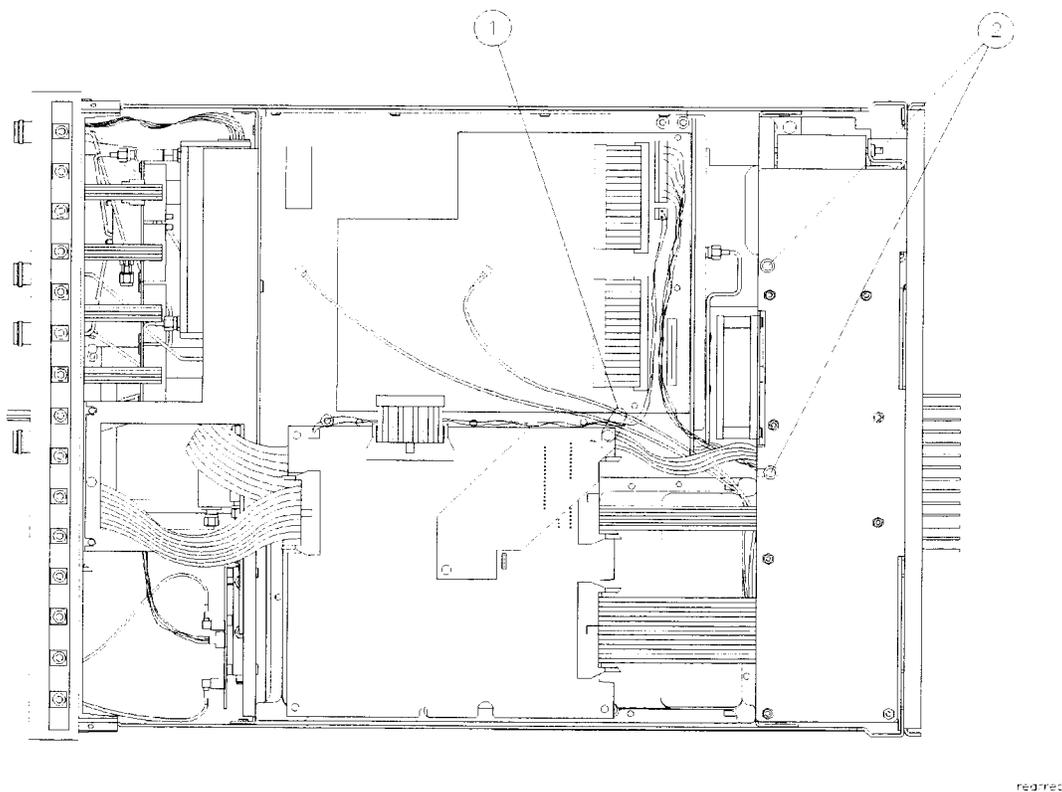
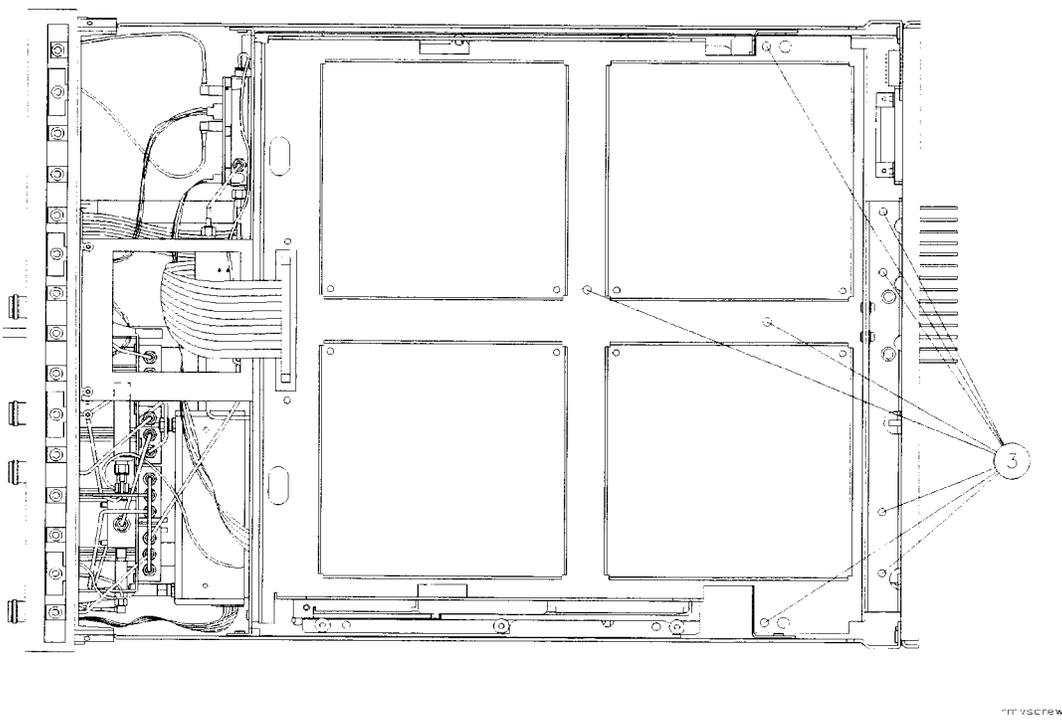
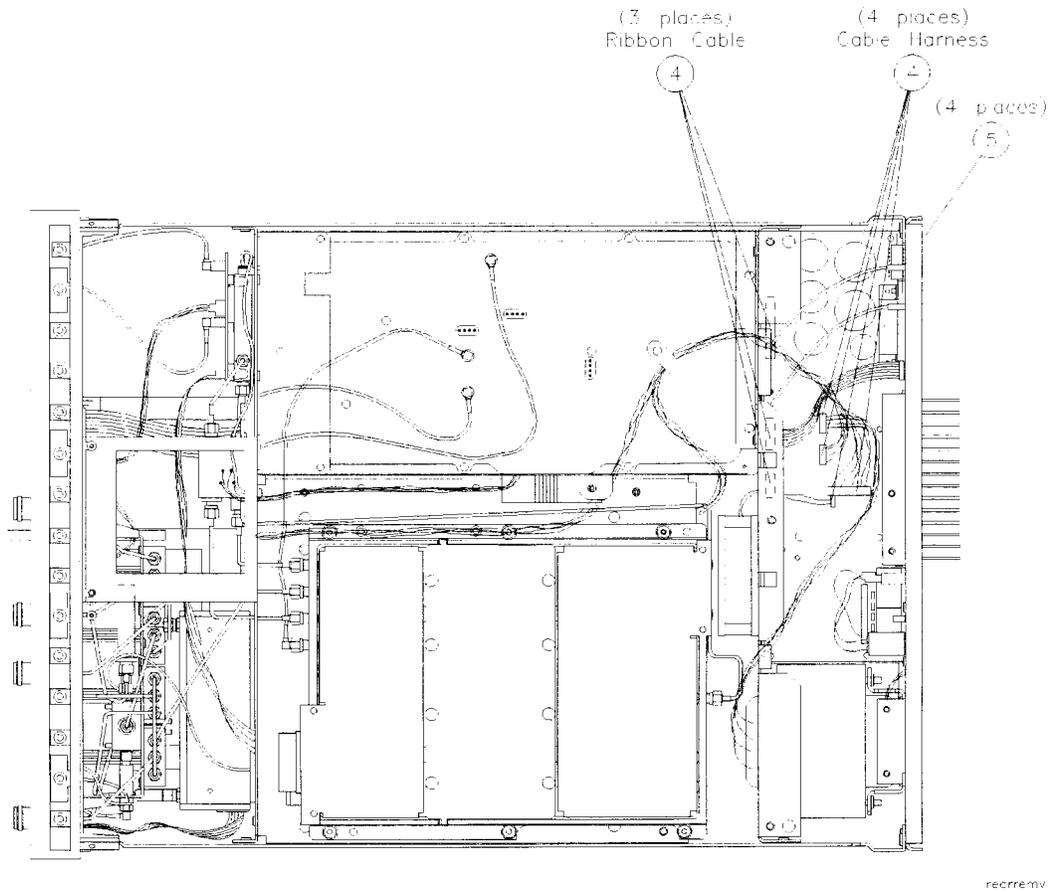

Figure 4-12 *Rear-Panel Assembly Replacement*
Figure 4-13 *Rear-Panel Assembly Replacement, Removing Lid Screws*
Figure 4-14 Rear-Panel Assembly Replacement, Rear Panel Removal
1. Cut the tie wrap that secures the two cables to the extended hex nut on the A11 processor board (1). Refer to Figure 4-12 on page 4-26.
2. Remove the two screws from the bottom plate of the rear panel (2).
4. Remove the eight screws on the lid (3), to access the components underneath the top lid. Refer to Figure 4-13 on page 4-26.
5. Disconnect the three ribbon cables and the four cable harness assemblies from the rear panel (4). Refer to Figure 4-14 on page 4-27.
7. Remove the four screws from the corners located on the outside of the rear panel assembly (5).
2. Replace the four screws on the corners located on the outside of the rear-panel assembly (5). Refer to Figure 4-14 on page 4-27.
3. Connect the three ribbon cables and the four cable harness assemblies to the rear panel (4).
4. Replace the eight screws on the lid (3). Refer to Figure 4-13 on page 4-26.
6. Replace the two screws on the bottom plate of the rear panel (2). Refer to Figure 4-12 on page 4-26.
8. Replace the tie wrap that secures these two cables to the extended hex nut on the A11 processor board (1). Refer to Figure 4-12 on page 4-26.